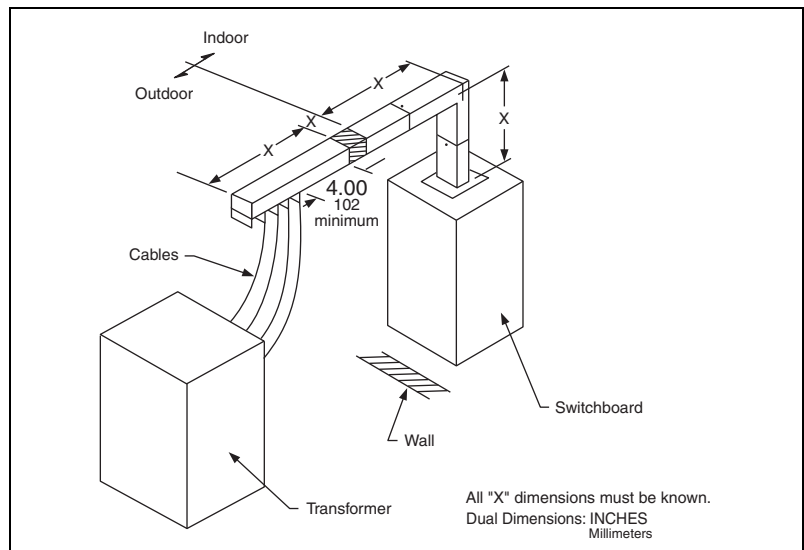

Figure 18: Transformer Tap for One Three-Phase Transformer
A flatwise service head (SB) with the box removed is therefore a transformer tap (SF). An SF is a transformer tap for one three-phase transformer. Figure 18 illustrates a typical SF service entrance run.